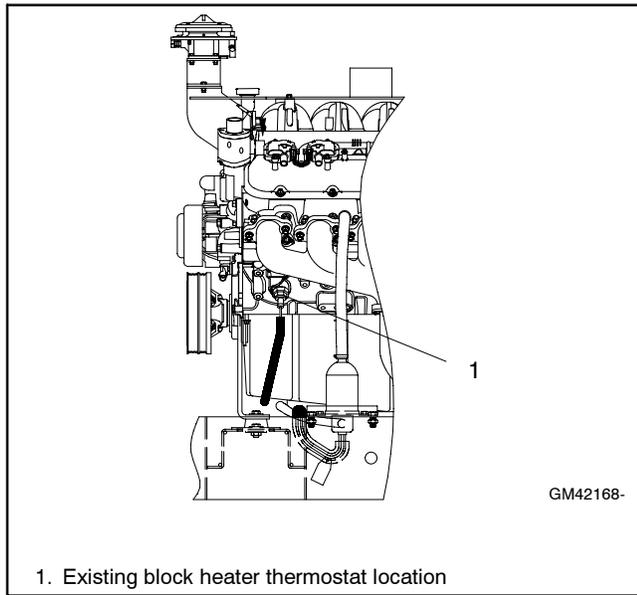

Figure 2 Existing Block Heater Thermostat Location (28 mm port)
- 2.7 Remove the existing block heater thermostat from thermostat well in the 28 mm port in the lower left front of the engine block. The existing block heater thermostat will not be reused. See Figure 2.